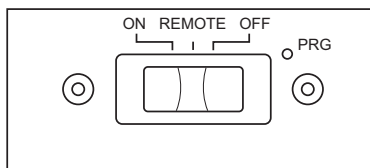

Figure 68 - Remote Selector Switch in ON Position
- Wait one minute and switch selector switch to the ON position to light burners (see **Figure 68**). When using in the ON position (without remote) burners will light on high. There is no adjustment to the flames without using remote.